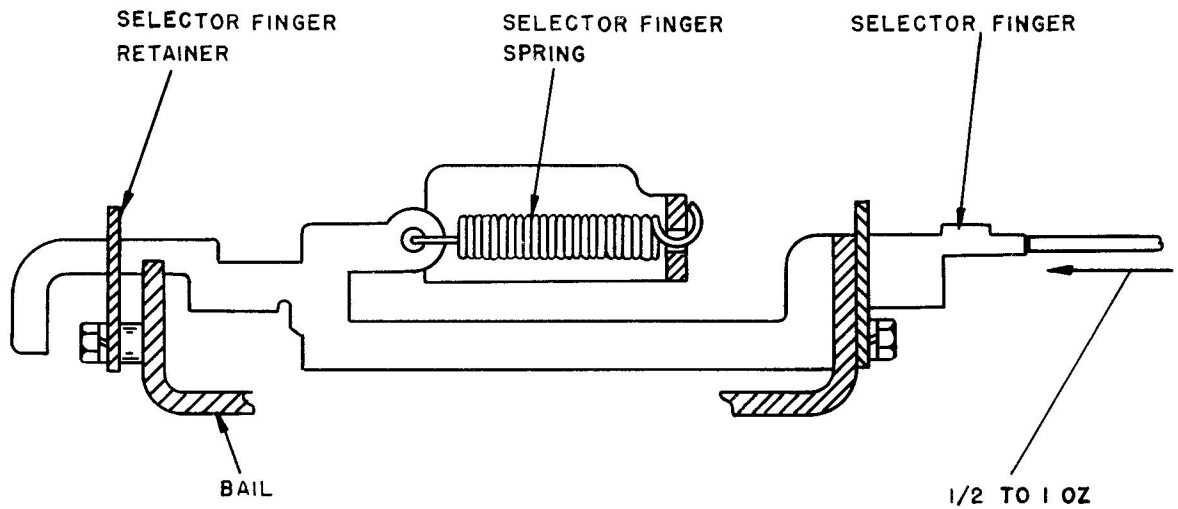

FIGURE 9
j. SELECTOR FINGER SPRING TENSION (FIGURE 9)